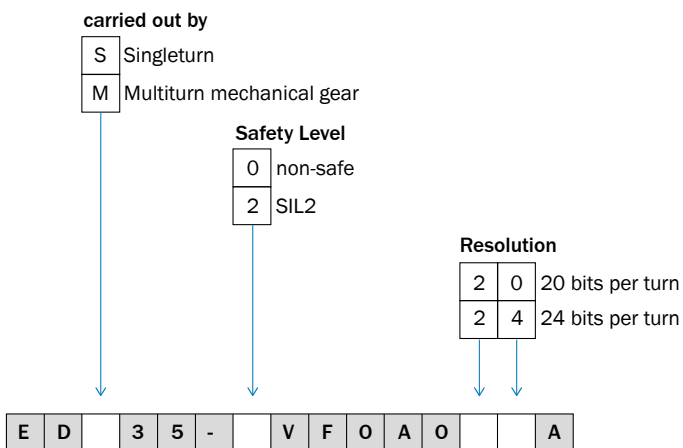

Figure 6: Ordering code
9 The defined measuring point (4) on the motor feedback system must be used for measuring the operating temperature (see dimensional drawing, Figure 6).